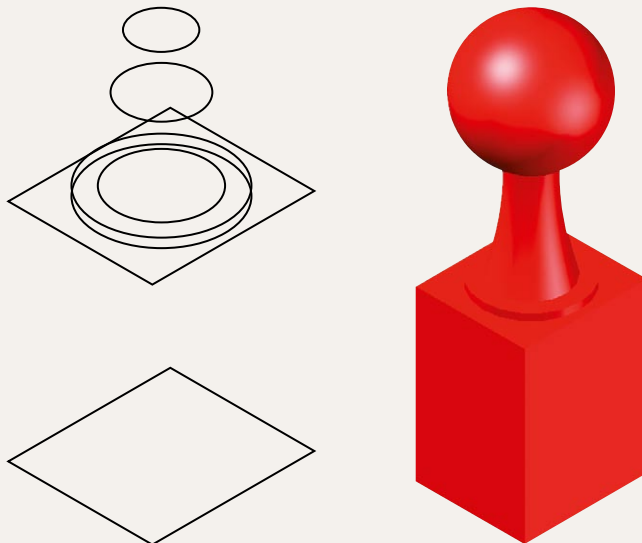

Fig. 12.54 The cross sections for Exercise 10
- Construct the cross sections as shown in the left-hand drawing of Fig. 12.54 working to suitable dimensions. From the cross sections construct the lofts shown in the right-hand view. The lofts are topped with a sphere constructed using the **Sphere** tool.